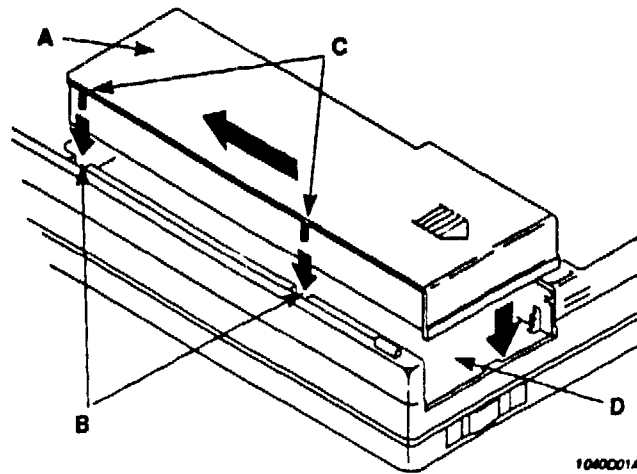

Figure 2-1. installing the Battery Pack
3. Place the battery pack into the battery compartment, and align the side tabs with the compartment slots as shown in Figure 2-1.